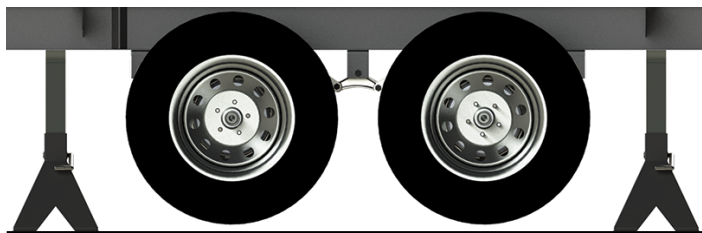

Fig.1
4. Using the properly-rated floor jacks, lift the RV according to the manufacturer's recommendation until the wheels are no longer in contact with the ground (Fig.1)